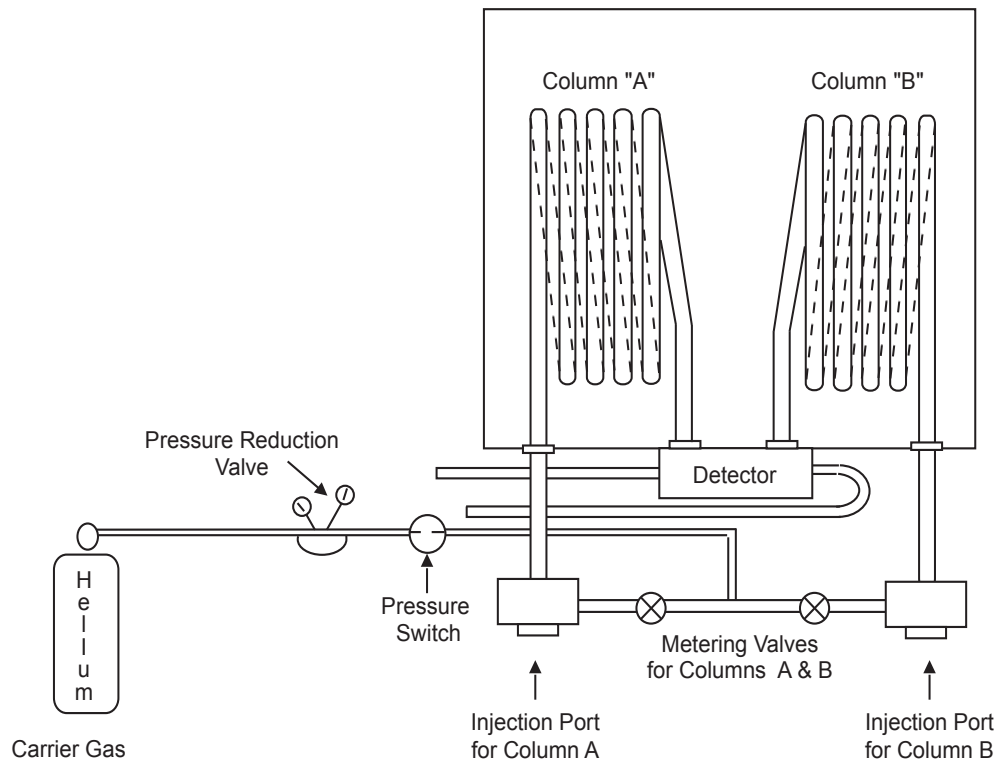

Figure 3-3
10. The easiest way to locate leaks in the system is through the use of a GOW-MAC Gas Leak Detector, Series 21-080. If one is not available, the use of a leak testing solution (soap solution) and checking for bubbles may be used. Refer to Figure 3-3 to locate possible leak areas.